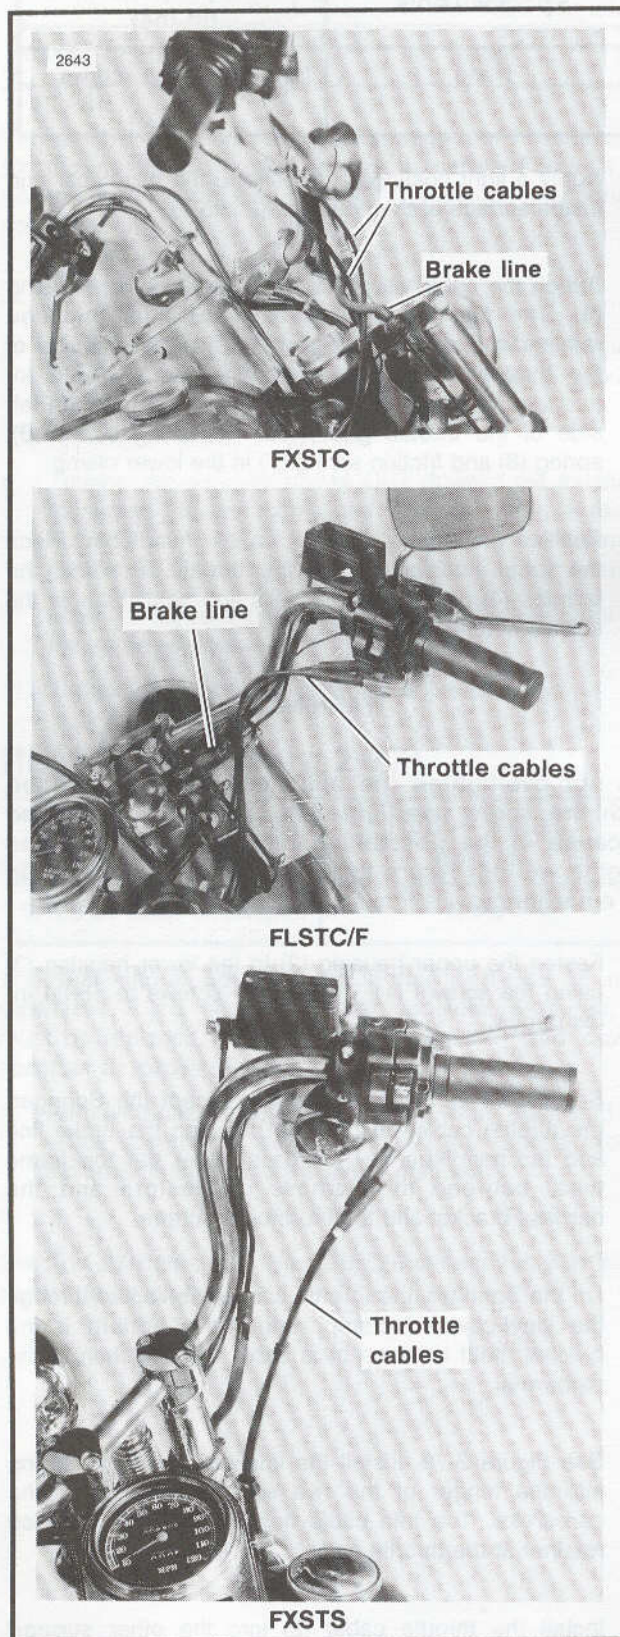

Figure 2-78. Cable Routing
4. Fasten the upper housing (2) to the lower housing (3) using the screws (1). Tighten the screws to 18-24 in-lbs torque.
5. See Figure 2-78. On all models except the Springer, the throttle cables are routed between the brake line and the handlebars. They pass under the top frame tube, between the harness connectors and the harness bracket and then to the carburetor.